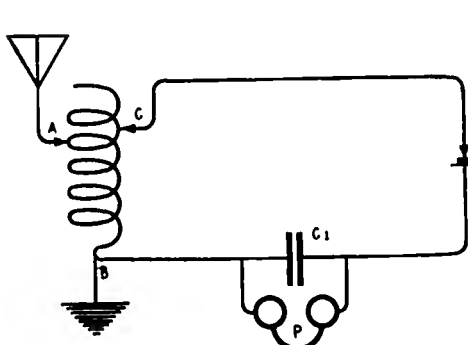

Figure 124
- (3) Figure 124. To show the circuits of a direct or conductively coupled receiver.
In figure 124, a single coil is employed to transfer the incoming oscillations from the antenna circuit to the local detector circuit. The turns A to B include those of the primary circuit. The turns B to C are those of the secondary circuit. The complete circuit comprises the crystal rectifier D, the head telephone P, and the shunt condenser C-1.
In the apparatus shown in figure 124, the radio frequency current flowing through the turns A to B sets up a magnetic field which cuts through the remaining turns B to C, and a current of similar frequency is impressed across crystal detector D, where it is rectified. A charge accumulates in C-1 over the duration of a group of oscillations and C-1 discharges into the head telephone P.